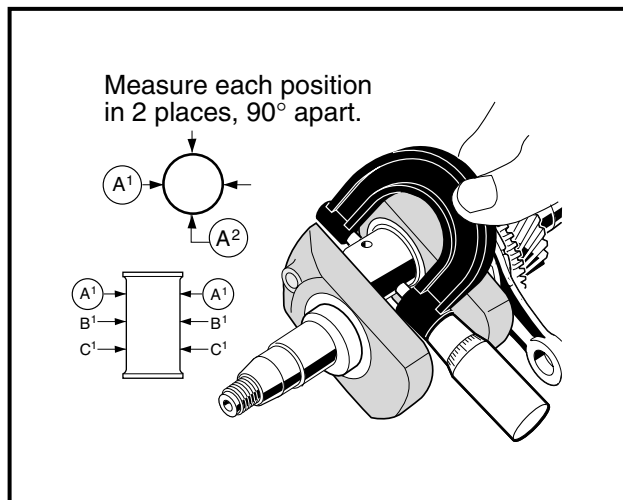

Figure 13-85 Measure Connecting Rod Journal
4. Using a micrometer, measure the connecting rod journal at several points along its length (**Figure 13-85, Page 13-40**).